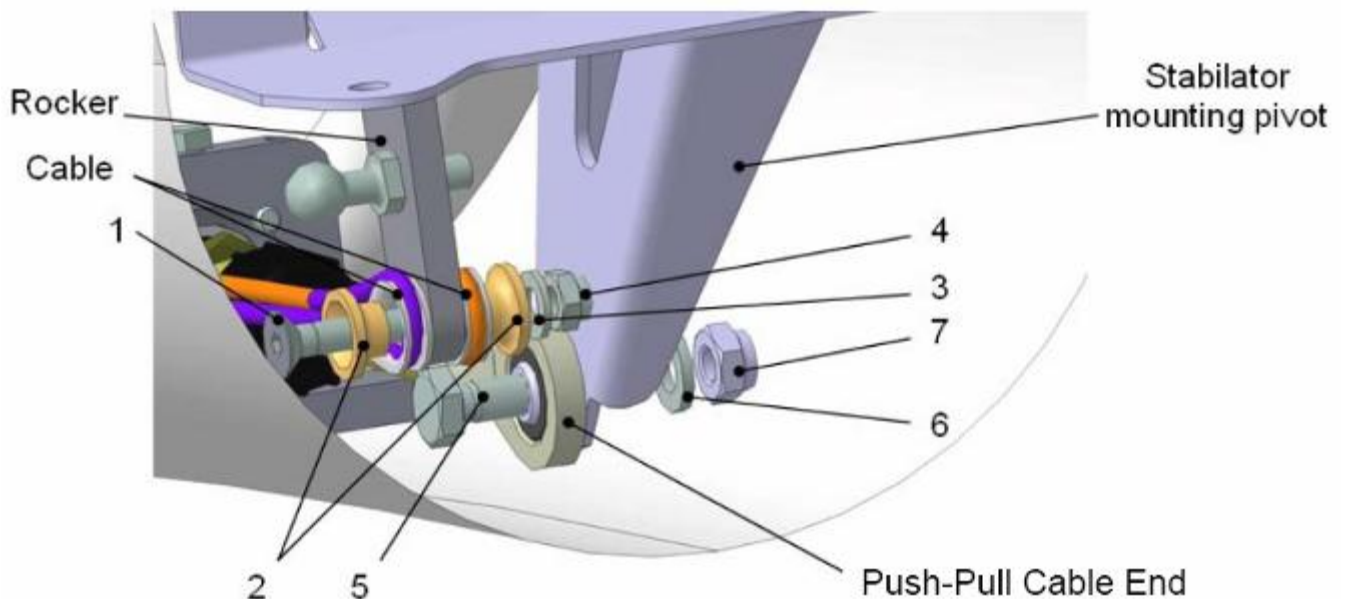

Fig. 4-13
7. Connect cables to rocker and push-pull cable end to Stabilator mounting pivot as shown on Fig. 4-13. Secure bolts with new nuts (4) and (7).